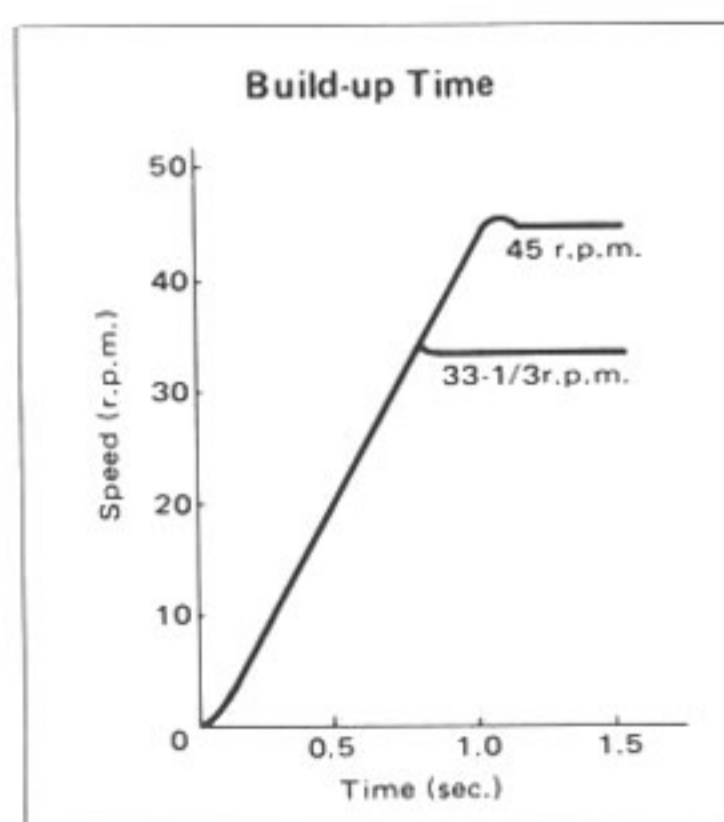

Fig. 1
**High torque motor delivering 1.5kg-cm makes it possible to reach 33-1/3 r.p.m. from standstill within 0.7 sec. (1/4 rotation) and to effect instantaneous speed change. (Fig. 1).**